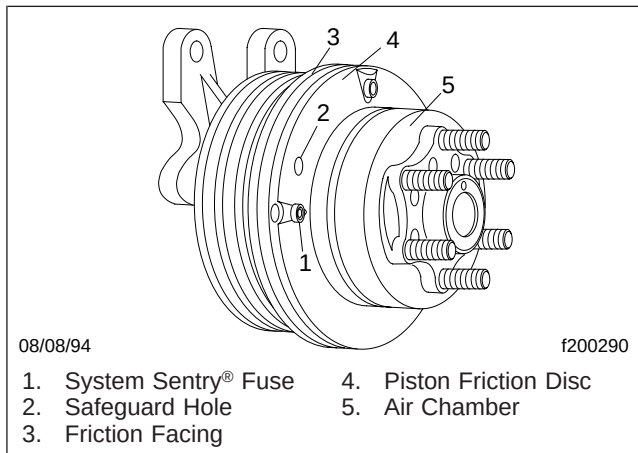
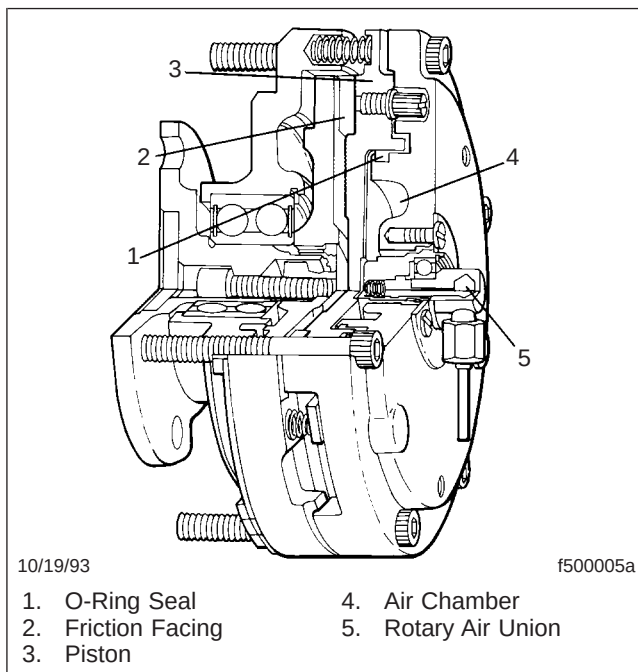

Fig. 3, Horton Type S and HT/S Fan Clutch
Fig. 4, Horton HT 550 Fan Clutch
4. Check for wear on the friction facing. See **Fig. 3** (Type S and HT/S) or **Fig. 4** (HT 550). Replace the facing if it is worn to 1/16-inch (1.6-mm) thickness or less on a Type S or HT/S fan clutch, or to 7/32-inch (5.6-mm) on an HT 550 fan clutch.
6.1 Type S and HT/S Fan Clutches (**Fig. 3**)
6.2 HT 550 Fan Clutch (**Fig. 4**)